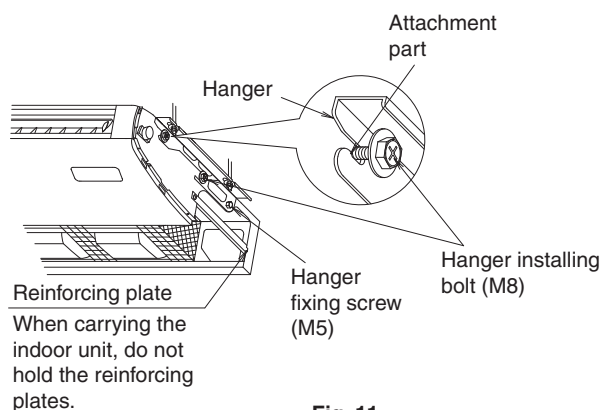

Fig. 11
- (2) Lift up the indoor unit, slide from the front and put the hanger installing bolt (M8) into the securely for temporary hanging. (Refer to Fig. 11)
- (3) Tighten the hanger fixing screws (M5) at 2 places, which were removed, as they were before. (Refer to Fig. 11)
- (4) Tighten the hanger installing bolts (M8) at 4 places securely. (Refer to Fig. 11)